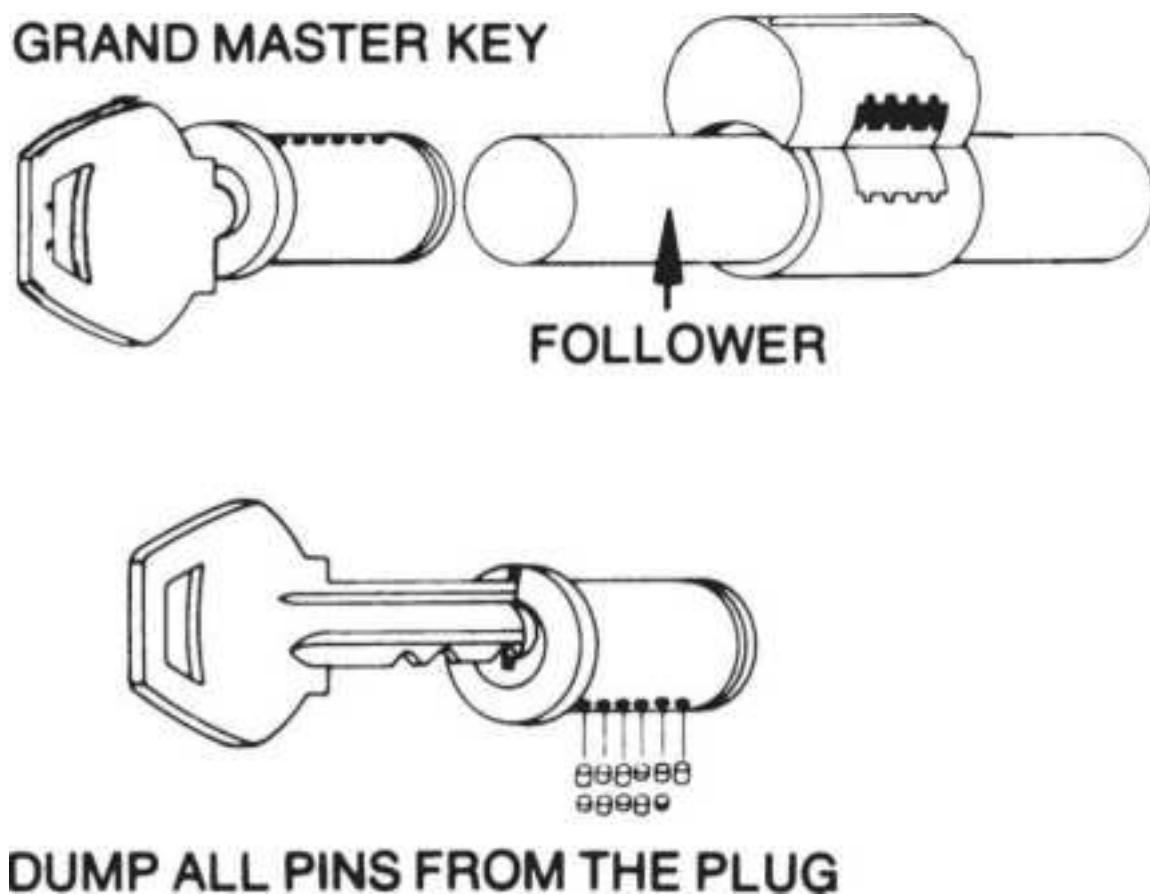

**Figure 9.19** Using the appropriate follower, remove the plug, then dump the pins. (Emhart Corp.)
5. Withdraw the plug and remove all pins from their chambers. Figure 9.19 illustrates this procedure.